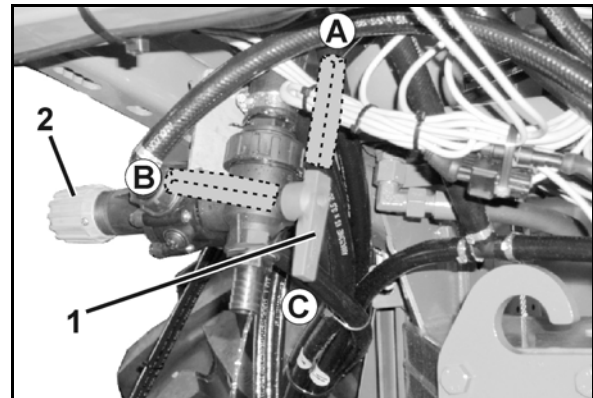

Fig. 123
- the DUS switch tap (Fig. 123/1).
- the DUS pressure relief valve (Fig. 123/2). The DUS pressure relief valve is permanently set at the factory and reduces the pressure in the pressure circulating system to 1 bar.
- If the DUS switch tap is in position (Fig. 123/A), the pressure circulating system is switched ON.
- If the DUS switch tap is in position (Fig. 123/B), the pressure circulating system is switched OFF.
- If the DUS switch tap is in position (Fig. 123/C), liquid can be drained from the field sprayer.